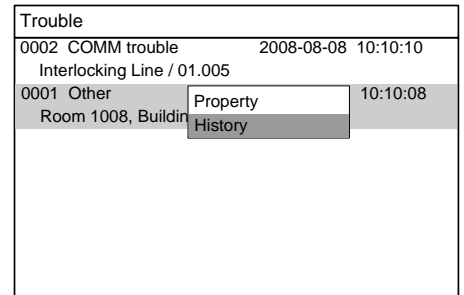
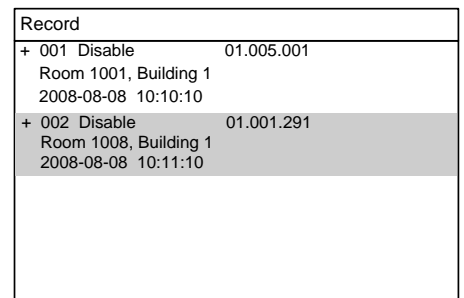

Fig.11-1
Fig.11-2
1. Select a station, a line or a point and press “→” to pop out a shortcut menu, and then press “↓” to “History” (Fig. 11-1). Press “OK” to pop out the record window. All the history records will be displayed. (Fig. 11-2)